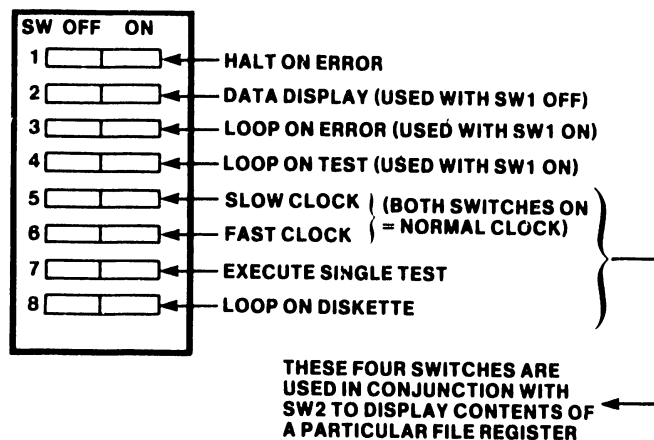

Figure 8-2. Monitor Diagnostic Switch
3. Set switch SW1 on the Maintenance Panel Monitor Diagnostic switch (figure 8-2) to the OFF position, all other switches ON.
7. Place the Step/Run switch to Run position and press the Step button. This causes the diagnostic program to begin executing. The program will halt at Instruction Counter (IC) location XXXX (halt may not be consistent). There are some exceptions, such as TEST5000 - Visual Verification Test - which stops at location 0020. Refer to table 8-1 for known good IC halts.
1. While a Level 3 or higher diagnostic test is halted at Location 0000, set switches 5 and 6 (figure 8-2) to regulate the System Clock for either slow, fast, or normal cycle time. If an intermittent CPU problem exists, the Slow/Fast diagnostic clocks may be used for troubleshooting. However, the Slow/Fast clocks must not be used to enhance system performance.